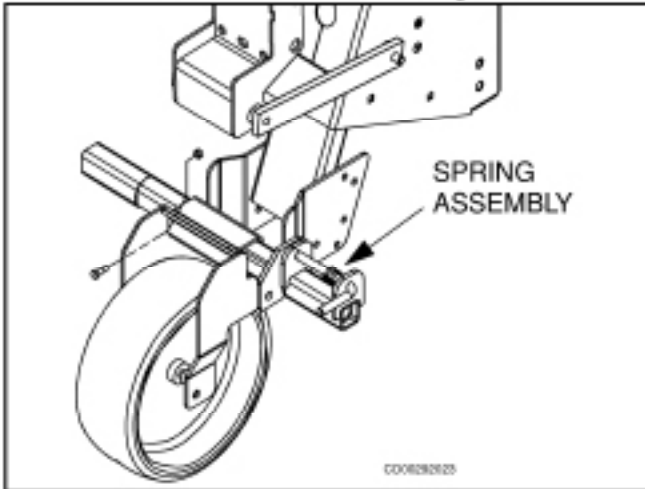

Figure 47 Flip-up Disc Tube
**NOTE:** Make sure tube is centered and spring assembly is on top. Spring assembly should always be on left side of tree as shown in Figure 47.